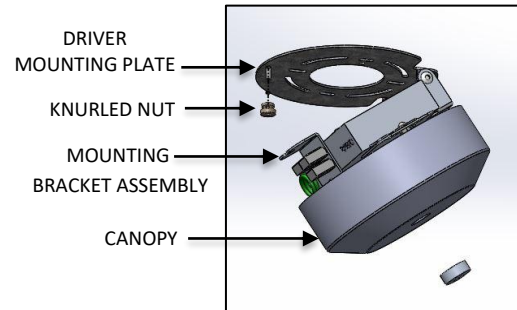

FIG. 10 – MOUNTING PLATE DIS-ASSEMBLY
2. Unscrew the KNURLED NUT securing MOUNTING PLATE to driver MOUNTING BRACKET. Swing driver mounting bracket down and out of the way as shown below in FIG. 10.